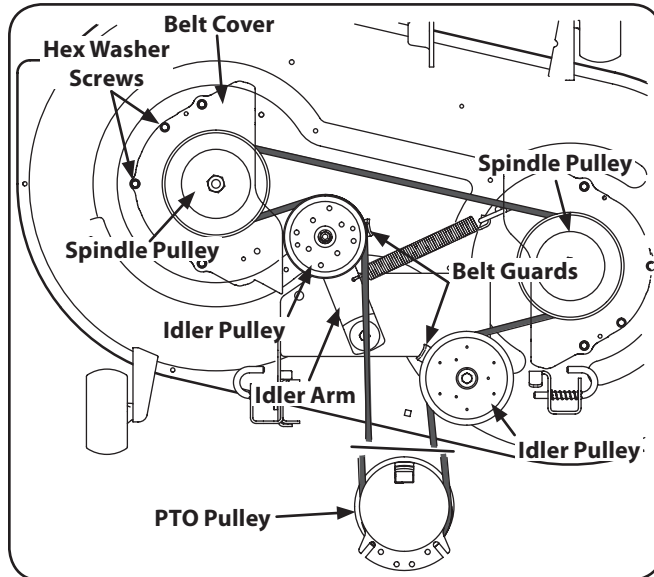

Figure 7-8
2. Remove the hex washer screws securing the belt covers to the deck. See Figure 7-8.
3. Remove the two idler pulleys by removing the hex screws and flange lock nuts that secure them to the deck and the idler arm. See Figure 7-8. Do not lose any of the hardware when removing the hex screw and flange lock nut.
5. Install the new belt around the spindle pulleys as shown and reinstall the belt covers. See Figure 7-8.
6. Place the belt around the idler pulleys removed in step 3 with the "V" side facing in. Once in place, reinstall all the hardware and tighten the flange lock nut to secure the assembly. See Figure 7-8.
7. Route the belt as shown in Figure 7-8 and then reinstall the deck (refer to Deck Installation on page 30).